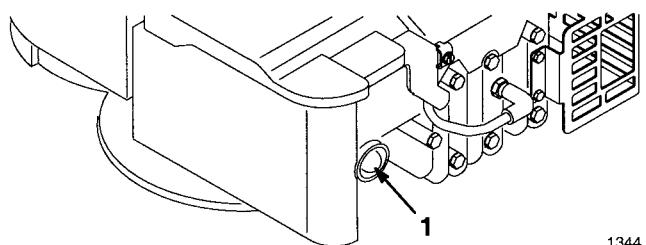

Figure 11
- 3. Push primer three (3) times (Fig. 11). **Wait about two (2) seconds between each push.**